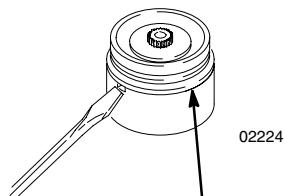

Fig 3
Insert a screwdriver into the notch of the chamber assembly and pry off the chamber top (B). See Fig 3. Remove all parts.